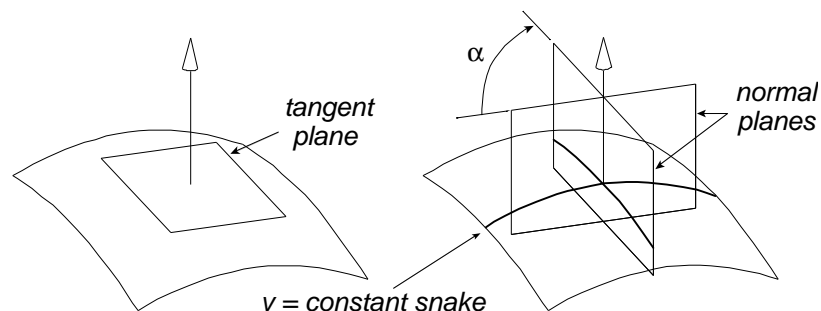

Fig. 4. Normal vector (left); normal planes and normal curvature (right).
**Definition 1: Normal Vector** — At a given point on a sufficiently smooth surface, there is a unique tangent plane. The normal vector is attached to the given point and is perpendicular to the tangent plane at that point (Fig. 4, left).
**Definition 2: Normal Plane** — At a given point on a surface, any plane that passes through that point and includes the normal vector is called a normal plane (Fig. 4, right).
**Definition 3: Normal Curvature** — Normal curvature is the curvature of the curve created by intersecting the surface with a normal plane (Fig. 4, right).